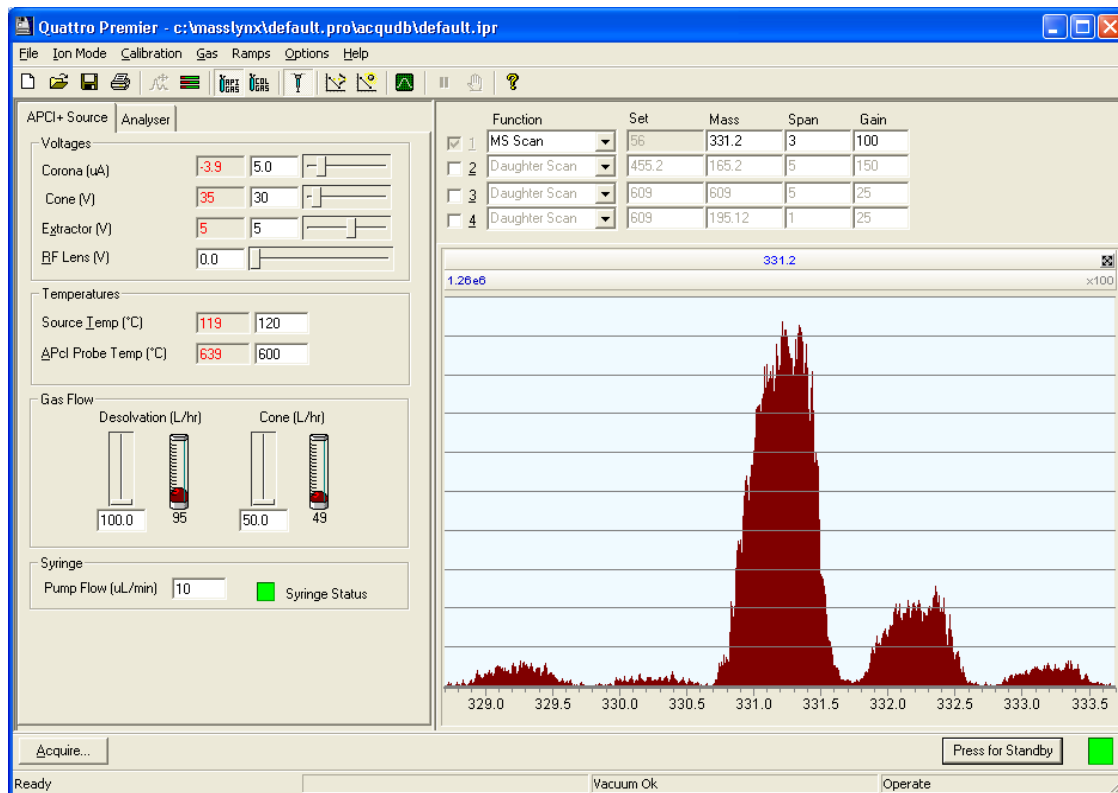

Figure 3-5 Tune Window with a 17- α -Hydroxyprogesterone Peak
21. Observe the 17- α -hydroxyprogesterone peak at m/z 331.2 (M+H⁺) in the Tune window (see Figure 3-5).
31. Confirm that the displayed peaks have the correct resolution and the isotopes are resolved as shown in Figure 3-5. If necessary, adjust the Analyser page LM Resolution 1, HM Resolution 1, and Ion Energy 1 slider bars to achieve optimum resolution.
32. In the Tune window, determine the m/z value of the peak's center to one decimal place (Figure 3-5). Record this value.